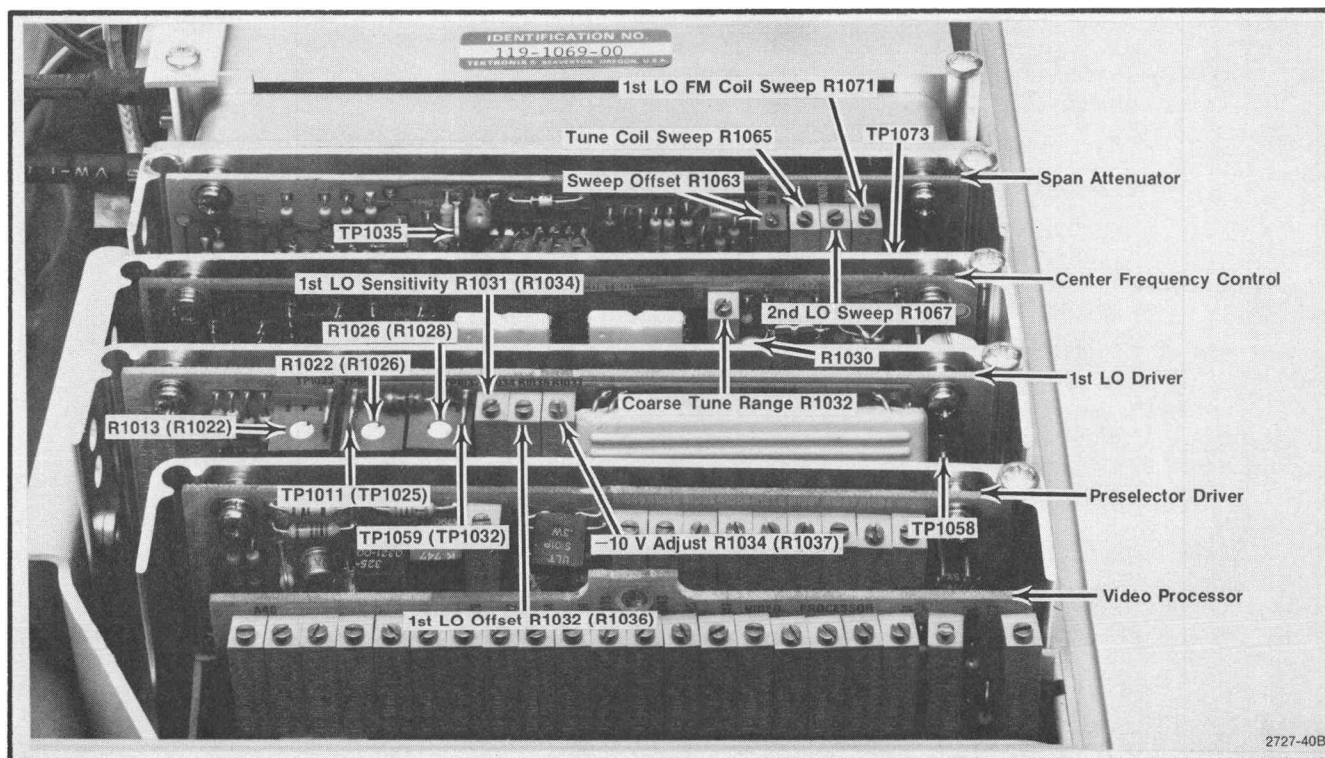

Fig. 3-31. 1st LO balance and span adjustments and test points. (Circuit numbers in parenthesis apply to earlier version boards.)
2) Connect the digital voltmeter (DVM) set to the 200 V range between TP1058 of the 1st LO Driver and chassis ground (Fig. 3-31), so the voltage at the test point can be monitored. Adjust FREQUENCY for a readout of 0 MHz as the FREQ SPAN/DIV is reduced to 5 MHz. Note the DVM reading.
5) If the differential between 0 MHz and 4.278 GHz is not 20.00 V, adjust Coarse Tune Range R1032, on the Center Frequency Control board (Fig. 3-31) until the difference between the two frequency points is 20.00 V.
2) Connect the digital voltmeter (DVM), set to the 200 V range, between TP1058 of the 1st LO Driver (Fig. 3-31) and chassis ground, so the voltage at the test point can be monitored; then adjust the FREQUENCY for a readout of 0 MHz. Reduce the FREQ SPAN/DIV to 5 MHz to obtain an accurate readout.
6) If the differential between 0 MHz and 4.278 GHz is not 20.00 V, adjust Coarse Tune Range R1032, on the Center Frequency Control board (Fig. 3-31), until the difference between the two frequency points is obtained.
1) Connect the DVM to TP1032, on the 1st LO Driver board (Fig. 3-31).
2) Adjust R1037 (Fig. 3-31) for -10.00 V.
1) Connect a shorting strap from TP1035, on the Span Attenuator board, to chassis ground (Fig. 3-31). Monitor the voltage on TP1073 (Fig. 3-31) with the DVM.
4) Adjust the 1st LO Offset R1032 (Fig. 3-31) on the 1st LO Driver board to center the 1.8 GHz marker.
6) Adjust 1st LO Sensitivity R1031 (Fig. 3-31) on the 1st LO Driver board to center the 100 MHz marker.
4) Adjust the 1st LO Offset R1036 (Fig. 3-31) on the 1st LO Driver board to center the 1.8 GHz marker.
6) Adjust 1st LO Sensitivity R1034 (Fig. 3-31) on the 1st LO Driver board to center the 100 MHz marker.
2) Adjust Tune Coil Swp R1065 (Fig. 3-31) on the Span Attenuator board so the 100 MHz harmonics of the Calibrator are spaced at one division intervals over the center eight divisions of the graticule. Adjust the FREQUENCY as necessary to align the markers.
5) Adjust the 1st LO FM Coil Swp R1071 (Fig. 3-31) for a 1 marker/division over the center eight divisions of the display.
7) Adjust the 2nd LO Swp R1067 (Fig. 3-31) on the Span Attenuator board for 1 marker/division. Adjust FREQUENCY control as necessary to align markers.